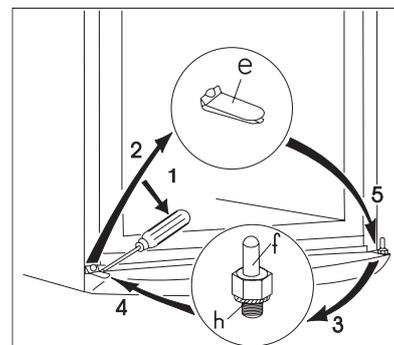

fig. 4.
8. Remove the insert of the plinth (e) by a screwdriver. (fig. 4)
9. Unmount the lower hinge pin (f) and its washer (h) and mount them on the other side. (fig. 4)
17. Fit the freezer door to the the lower door hinge pin (f). (fig. 4)